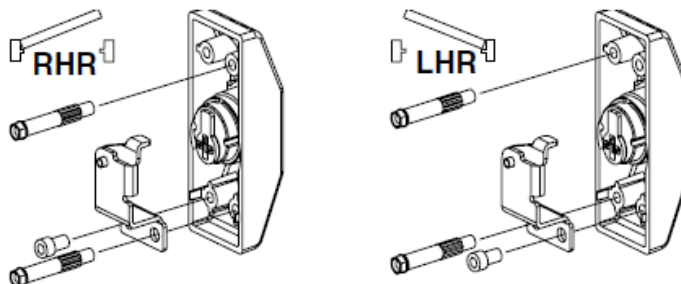

Figure 11-3
- 11.4. Install cylinder bracket (Figure 11-3). Install studs and screw where shown for RHR or LHR door. Make sure end of cylinder housing marked "TOP" is up.